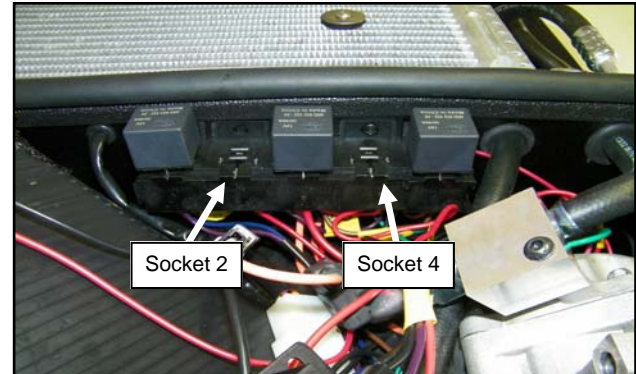

Fig. 3.5 (Remove Relays 2 & 4)
- 3.5 Per Figure 3.5, remove relays from sockets 2 and 4 on the air conditioner. One of these relays will be reused in a later step, the other may be used as a spare part (9SV-85-01-0022).